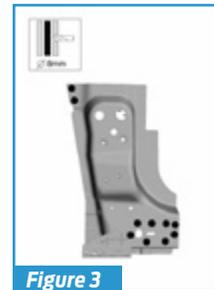

Figure 3
1. Drill plug-weld holes in the new A-pillar reinforcement, using the 8mm drill bit (**Figure 3**).